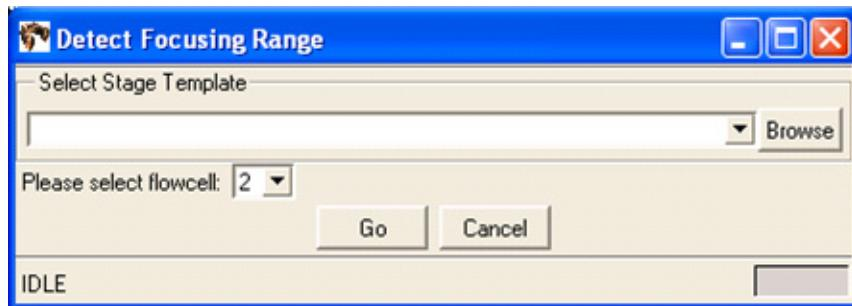

Figure 54 Detect Focusing Range dialog.
- In the focusing range dialog, specify the stage template file by entering the name directly or by clicking the **Browse** button to navigate to a suitable one (see Figure 54). The stage template must match the slide in the target flowcell(s). If you created a run from the ICS, then select the file **imagingMap.STG** from the subdirectory in C:\Runs whose name matches the name of the run (for example, select C:\Runs\Solid0327_20081209_2_Oct_Test\imagingMap.STG).